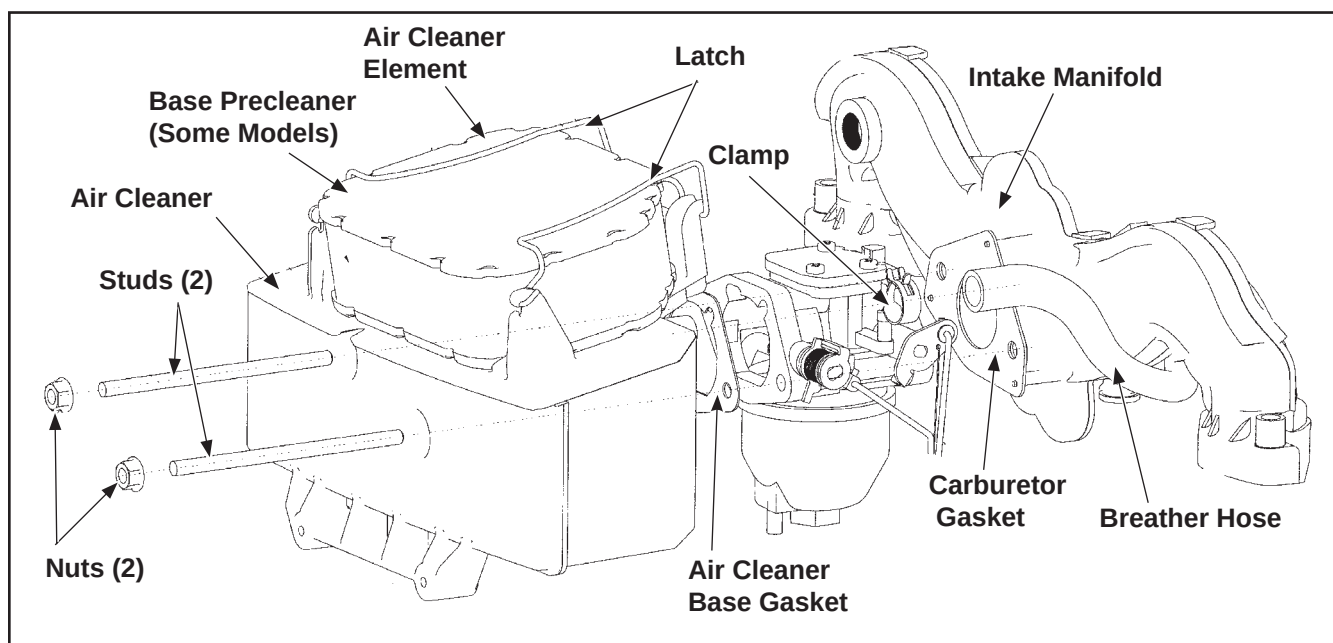

Figure 4-3. Air Cleaner System Components.
3. Remove the air cleaner components from the base. See Figure 4-3.